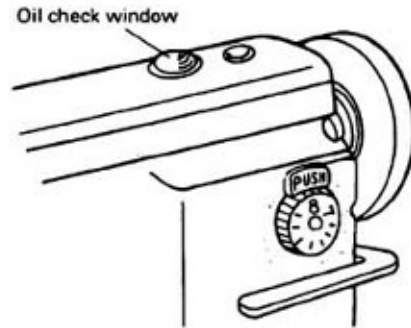

Fig.6
6. Condition of oil lubrication (Fig.6):